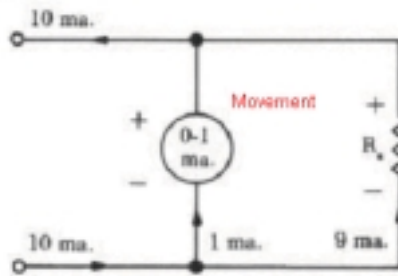

Fig. 9
**Determining the Value of a Shunt:** The value of a shunt resistor can be computed by applying the basic rules for parallel circuits. If a 50 mV 0 - 1 mA is to be used to measure values of current up to 10 ma., the following procedure can be used: The first step involves drawing a schematic of the meter shunted by a resistor labeled  $R_s$  (shunt resistor), as shown in figure 9.